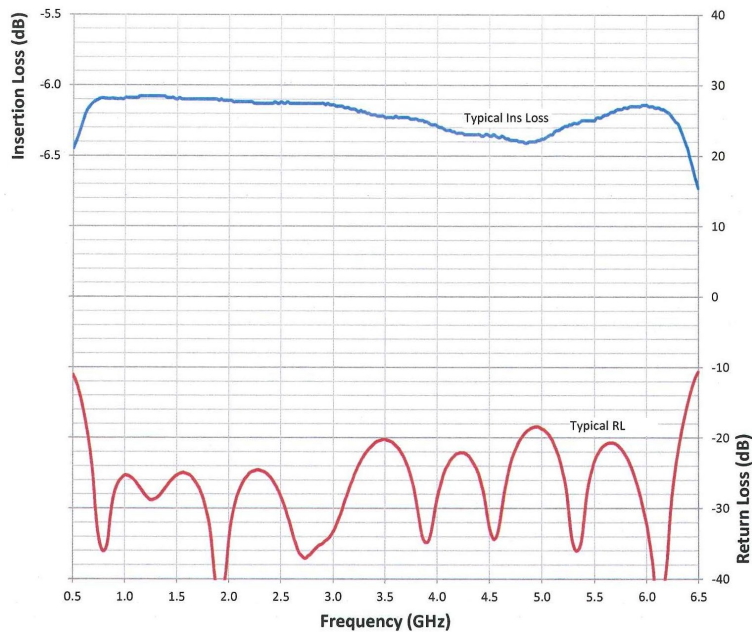

Figure 4-6. Typical 4-Way Combiner Insertion and Return Loss
- A typical Four-Way Combiner insertion loss is shown in Figure 4-6; a typical combined port return loss is shown in Figure 4-6. The unused port must be terminated when checking the insertion loss.
NOTE: The return loss of the Four-Way Combiner’s combined output port is typically better than 17 dB (See Figure 4-6).